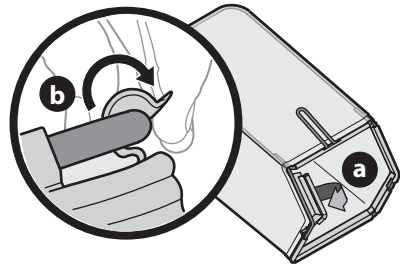

Figure 16
1. Perform the following to assemble the grass catcher (Figure 16).